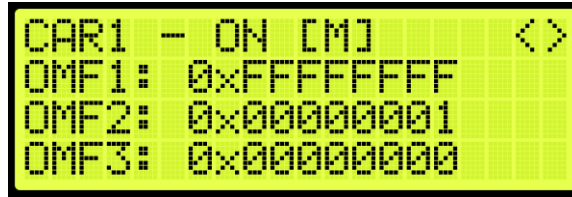

Figure 366: Front Opening Map Status
4. From the Front Opening Map Status (See Figure 366), press the right button.